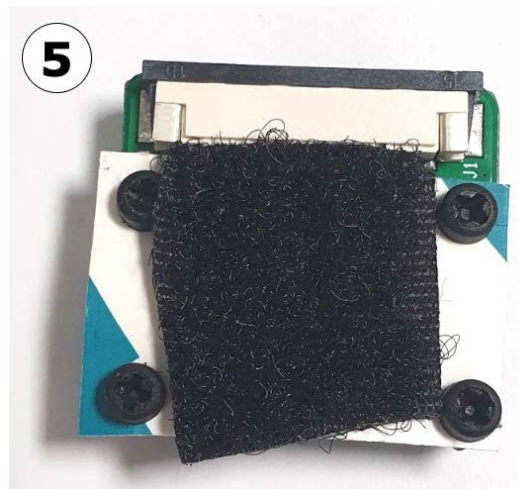

Figure 13.6 – The back of the cardboard/camera assembly with our hook-and-loop fastener
- Now cut a small amount of the hook-and-loop fabric, to which the material on the pan-and-tilt mechanism will fasten, and stick it to the back of the cardboard, as shown in *Figure 13.6*.